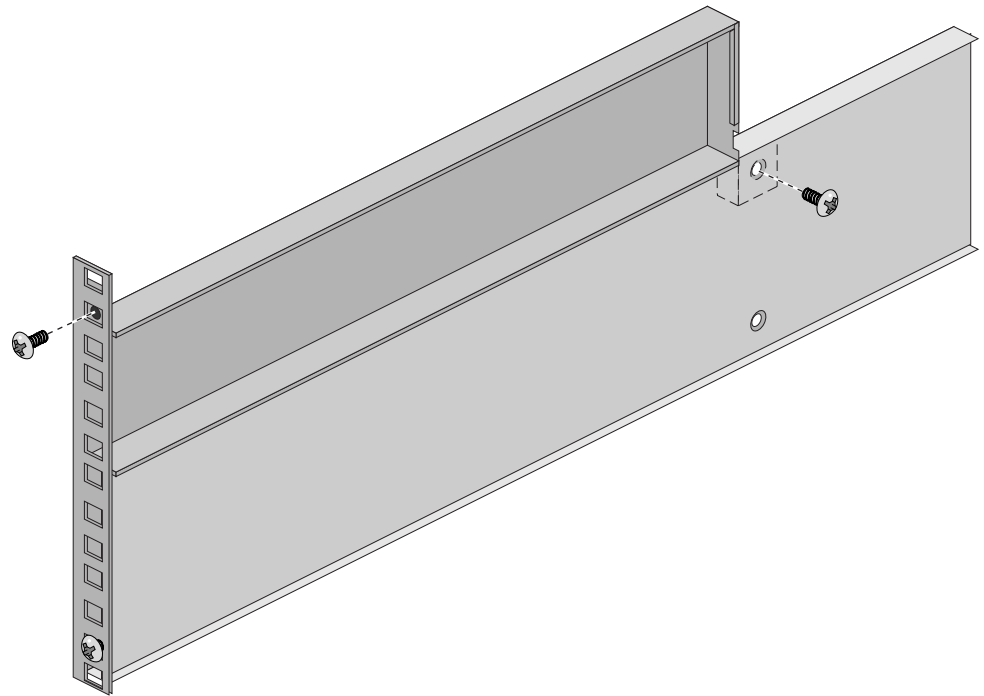

Figure 2-11 Air Duct Above Outer Rail
1. Place the left air duct above the left rail, see Figure 2-11 on page 29 for an example.